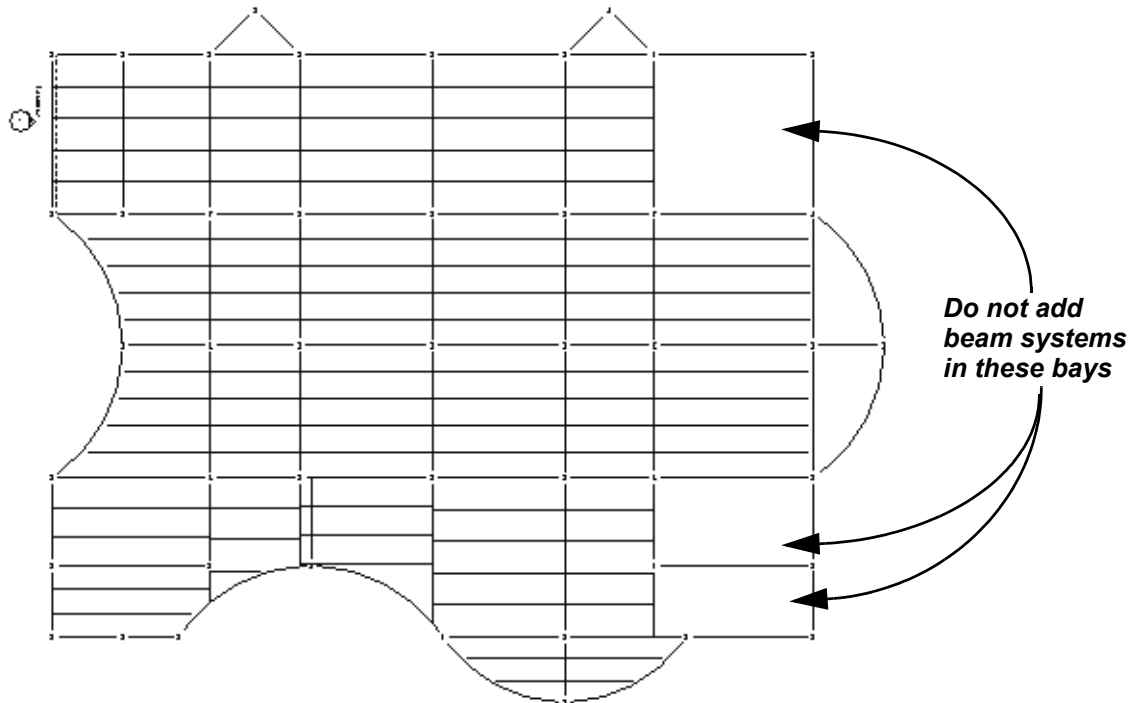

Figure 7–58
6. Use  (Automatic Beam System) to fill in as many bays as possible, as shown in Figure 7–58.